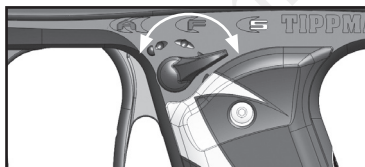

Figure 6: Selector Switch Operation (shown in Safe mode)
Safe mode (S): The Selector Switch as shown in Figure 6 is in Safe mode. Safe mode locks the Trigger and disables the Electronics, making the marker inoperable.